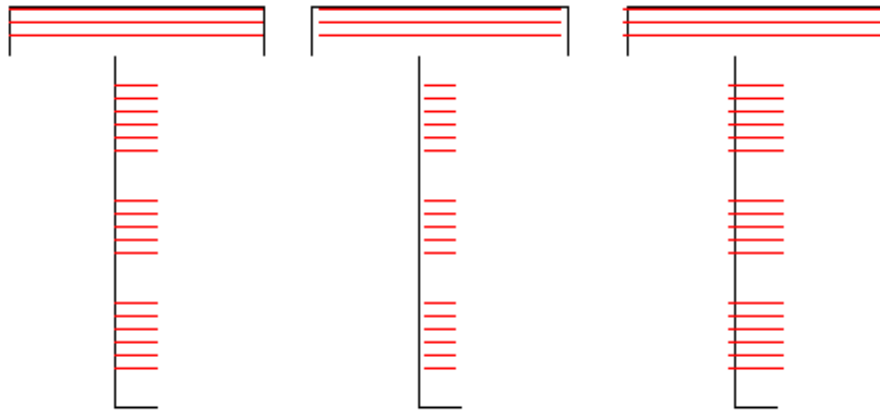

Figure 3-10 Linereduction
**Linereduction:** The hatch line both sides reduction. (Figure 3-10)